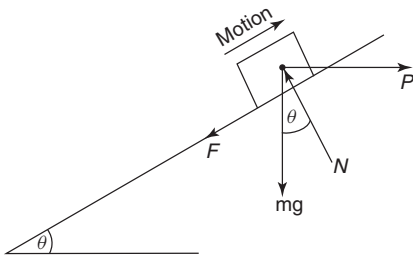

Figure 15.8
This motion, together with the primary forces, is shown in Figure 15.8.
in Figure 15.8, determine the value of P that will just cause motion up the plane.
9. Determine P for Problem 5, if it were acting in the direction shown in Figure 15.8. [$P = 438.6 \text{ N}$]